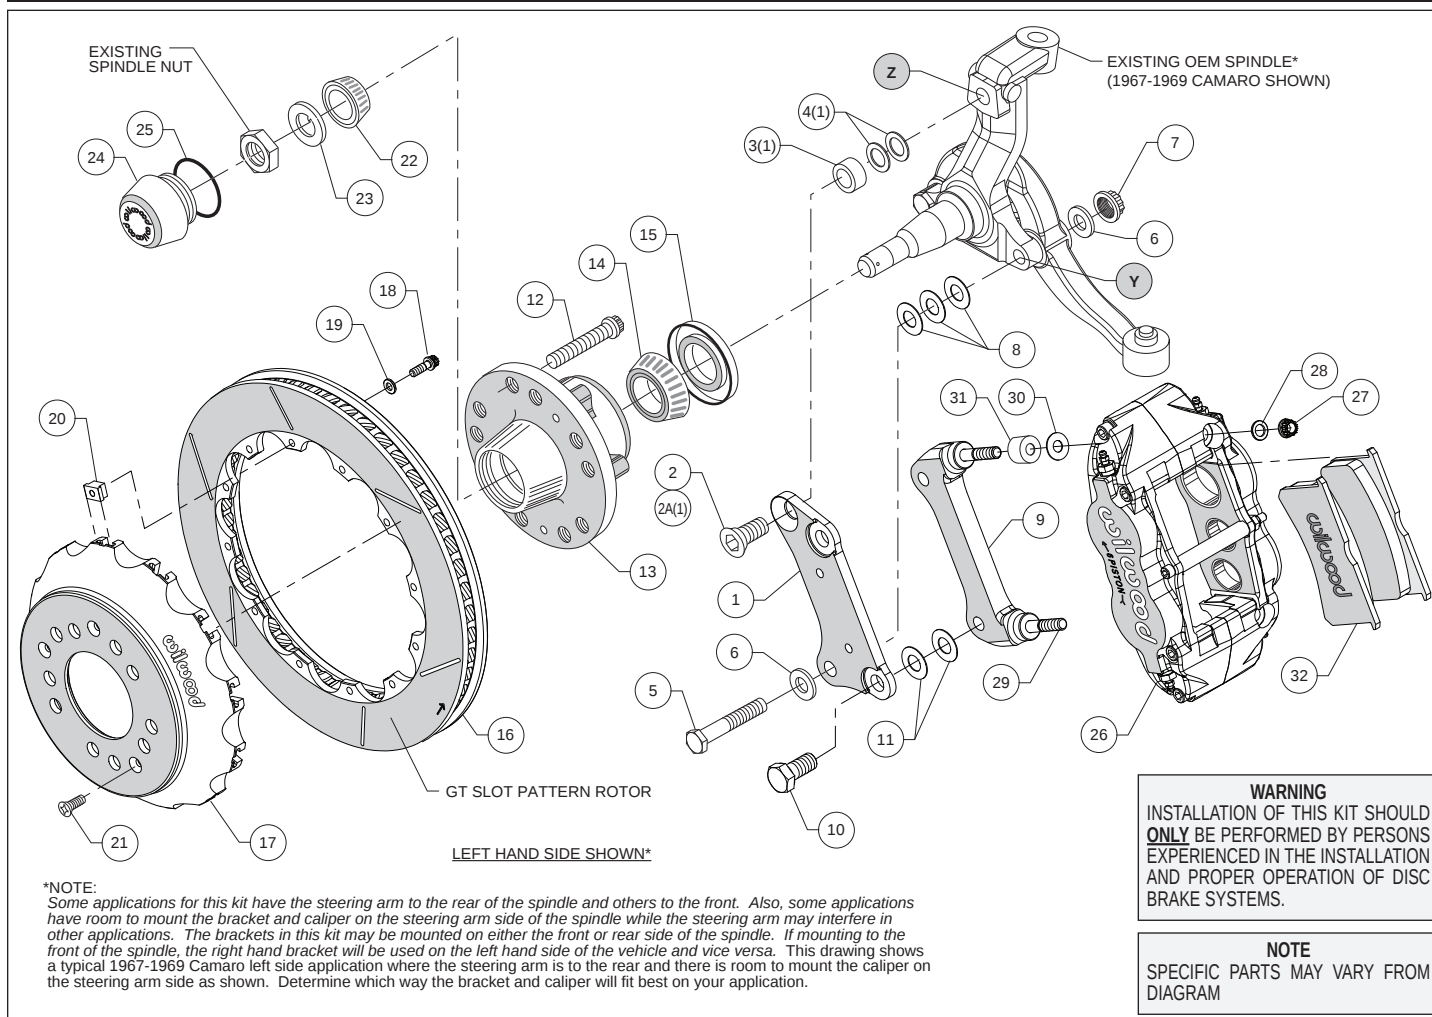
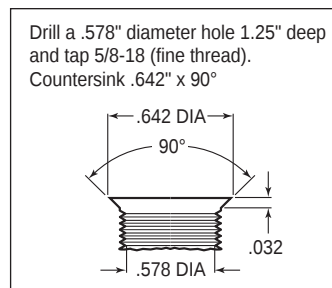
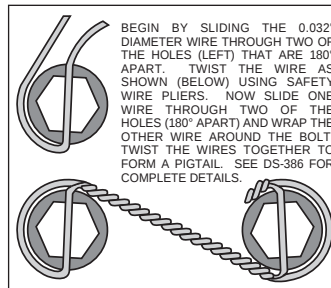

Figure 1. Typical Installation Configuration
Figure 3. Drill and Tap Detail
Figure 4. Safety Wire Diagram
Assembly Instructions (numbers in parenthesis refer to the parts list on the preceding page, and Figure 1):
•**NOTE:** Some applications for this kit have the steering arm to the rear of the spindle and others to the front. Also, some applications have room to mount the bracket and caliper on the steering arm side of the spindle while the steering arm may interfere in other applications. The brackets in this kit may be mounted on either the front or rear side of the spindle. If mounting to the front of the spindle, the right hand bracket will be used on the left hand side of the vehicle and vice versa. Figure 1 shows a typical 1967-1969 Camaro left side application where the steering arm is to the rear and there is room to mount the caliper on the steering arm side as shown. Determine which way the bracket and caliper will fit best on your application.
•**NOTE:** Some spindles in this year range may require the following modifications (reference Figure 1 and Figure 3): Top anchor pin hole (Z) must be drilled and tapped to the dimensions as outlined in Figure 3. The lower bolt hole (Y) in the spindle used to mount the new caliper bracket, and the mating steering arm hole, must be enlarged to .50" by drilling. It is recommended these modifications be performed by a qualified machinist.
•Install wheel studs (12) into the hub (13), Photo 1. Torque to 77 ft-lb. **NOTE:** There are two five lug patterns in the hub (5 x 4.50 and 5 x 4.75). Ensure the correct hub stud pattern is being used to fit the wheel application.
•Pack the large inner bearing cone (14) with high temperature disc brake bearing grease (available from your local auto parts store) and install into the backside of the hub (13).
•Install the grease seal (15) by pressing into the backside of the hub (13), Photo 2.
•Orient the rotor (16) and the hat (17) as shown in Figure 1 and Photo 3. Attach rotor to hat using bolts (18), washers (19), and t-nuts (20). Follow additional instructions included with the bolt kit. Using an alternating sequence, apply red *Loctite*® 271 to the threads, and torque to 120 in-lbs. Safety wire bolts using standard 0.032 inch diameter stainless steel safety wire as shown in Figure 4. Please refer to Wilwood's data sheet DS-386 (available at www.wilwood.com/Pdf/DataSheets/ds386.pdf) for complete safety wire installation instructions.
•**Disc Brake Spindle Application Only:** Follow the instructions below, but instead use bolt (2A), spacer (3), and two .050" thick shims (4) in the upper bolt hole location, Figure 1.
•Orient the flat bracket (1) as shown in Figure 1 and Photo 4, and install using bottom bolt (5), washers (6), and nut (7), Figure 1. Initially place three .032" thick shims (8) between the bracket and spindle. Install the upper bolt (2 or 2A). Temporarily tighten bolts. **NOTE:** The bracket must fit squarely against the mounting surfaces on the spindle. Inspect for interference from casting irregularities, machining ridges, burrs, etc. Temporarily install the new hub, hat and rotor assembly. Check that the bracket is aligned parallel to the rotor, Photo 5. If not, adjust by adding or subtracting shims (8) on the lower bolt between the bracket and spindle, Figure 1. Once the bracket alignment is correct, remove the upper bolt (2 or 2A), apply red *Loctite*® 271 to the bolt threads, and torque to 140 ft-lb. Torque the lower lock nut to 65 ft-lb.
•The radial mount caliper bracket (9) should initially be installed with clean, dry threads on the mounting bolts. Orient the bracket as shown in Figure 1 and Photo 6, and install using bolts (10). Initially place two .029 thick shims (11) on each bolt between the two brackets, Figure 1. Temporarily tighten the mounting bolts. Later, after the caliper alignment has been checked, the mount bolts will be secured using red *Loctite*® 271.
•Pack the small outer bearing cone (22) with high temperature disc brake bearing grease and install into hub (13). Final install the hub assembly onto the spindle. Secure using spindle washer (23) and OEM spindle nut, Photo 7. Adjust bearings per OEM specifications. Install saved OEM nut lock (if any) and a new cotter pin (not included).
•Screw dust cap (24) into hub (13). Friction created by the o-ring (25) on the dust cap keeps it from unscrewing. **NOTE:** The O.D. of the existing OEM spindle washer may be larger than the I.D. of the dust cap not allowing it to seat against the hub face. Therefore, use the spindle washer (23) supplied with the kit instead of the OEM washer.
•Final install the rotor (16 and 17) assembly onto the hub (13), taking care to align the small countersunk holes in the hat with the small threaded holes in the hub. **NOTE:** The hat must fit flush against the hub face or excessive rotor run out may result. Install three flat head screws (21) through the small holes in the hat (17), Photo 8, and torque to 85 in-lb.
•**NOTE:** This kit contains distinct right and left hand calipers that must be mounted in a specific direction, as described below. Lubricate the caliper mounting studs (29) with lightweight oil. Initially place one .035" thick shim (30) and one spacer (31) on each stud between the caliper and the bracket, as shown in Figure 1 and Photo 9. Mount the caliper (26) onto the bracket (9) using lock nuts (27) and washers (28), Figure 1. Ensure that the caliper is mounted so the largest pistons are at the rotor exit end of the caliper, in relation to the direction of rotor rotation. Temporarily tighten the lock nuts. The rotor should be centered in the caliper, Photo 10. If not, adjust by adding or subtracting shims (11) between the flat bracket (1) and the caliper bracket (9). Always use the